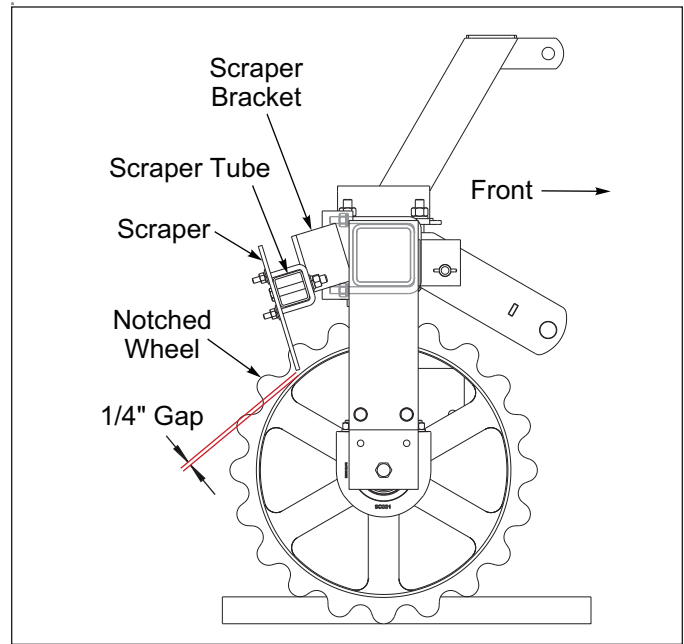

Figure 2-2: Scraper Kit Detail
2. Attach Scraper Brackets to the Scraper Tube with 1/2-13 x 3-1/2 Bolts, Flat Washers, Lock Washers, and Nuts. **See Figures 2-2 and 2-3.**
4. Center the Scrapers between the Notched Wheels. Position the Scrapers so that there is a 1/4" gap between the Scraper and the Notched Wheel. **See Figure 2-2.** Secure with 3/8-16 x 2-7/16 U-Bolts, Flat Washers, Lock Washers, and Nuts.